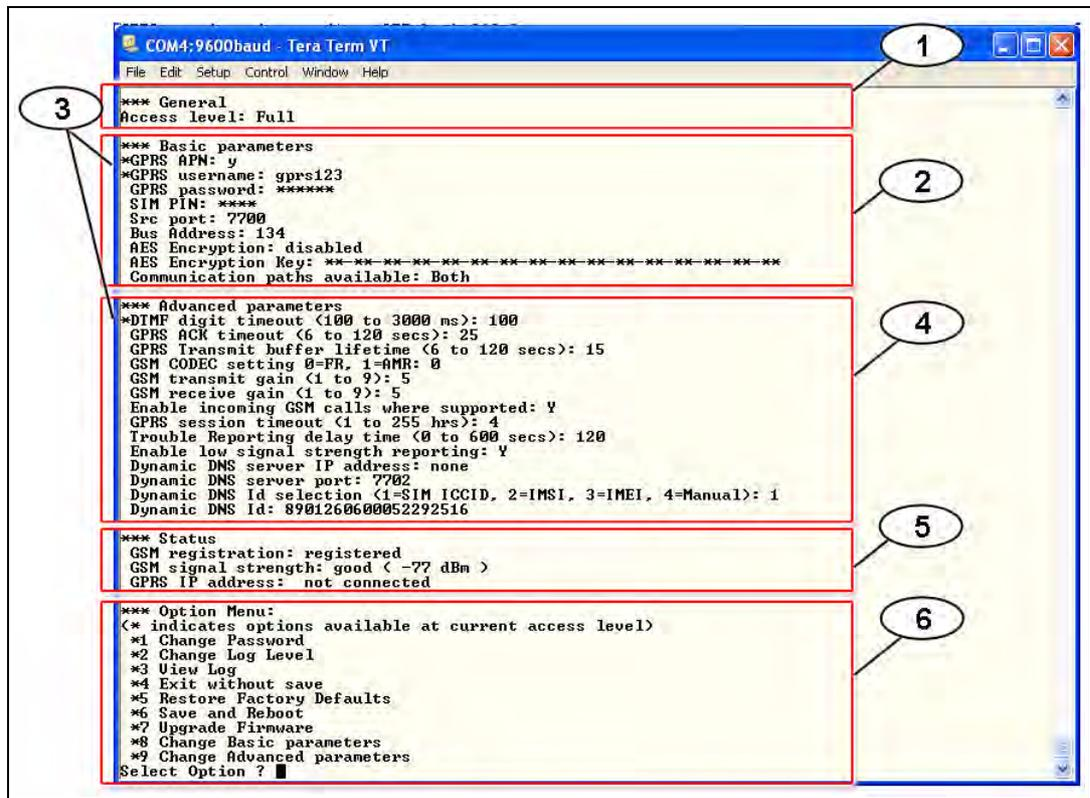

Figure 4.7 USB Main Menu
7. Press [Enter] to continue. The USB main menu opens. Refer to *Figure 4.7, Page 26*.
To see the USB option menu, refer to *Figure 4.7, Page 26*.